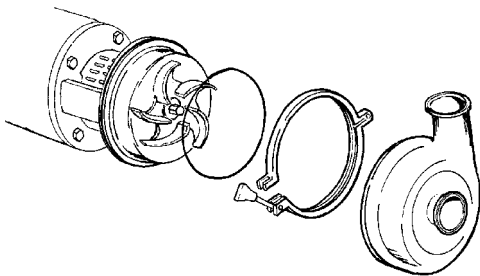

Figure 23 - Install Casing
28. Install casing O-ring on backplate and clamp casing in place (Figure 23).